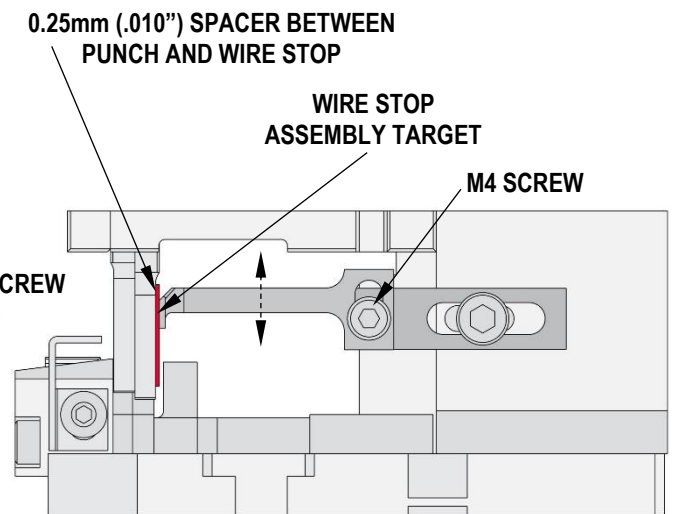

Figure 4.9.2
7. Use a 3mm hex wrench to loosen the M4 screw on the wire stop assembly mount. See Figure 4.9.2
9. While holding a 0.25mm (.010") spacer behind the conductor punch, move the wire stop assembly toward the conductor punch until the wire stop target touches the spacer. See Figure 4.9.2.